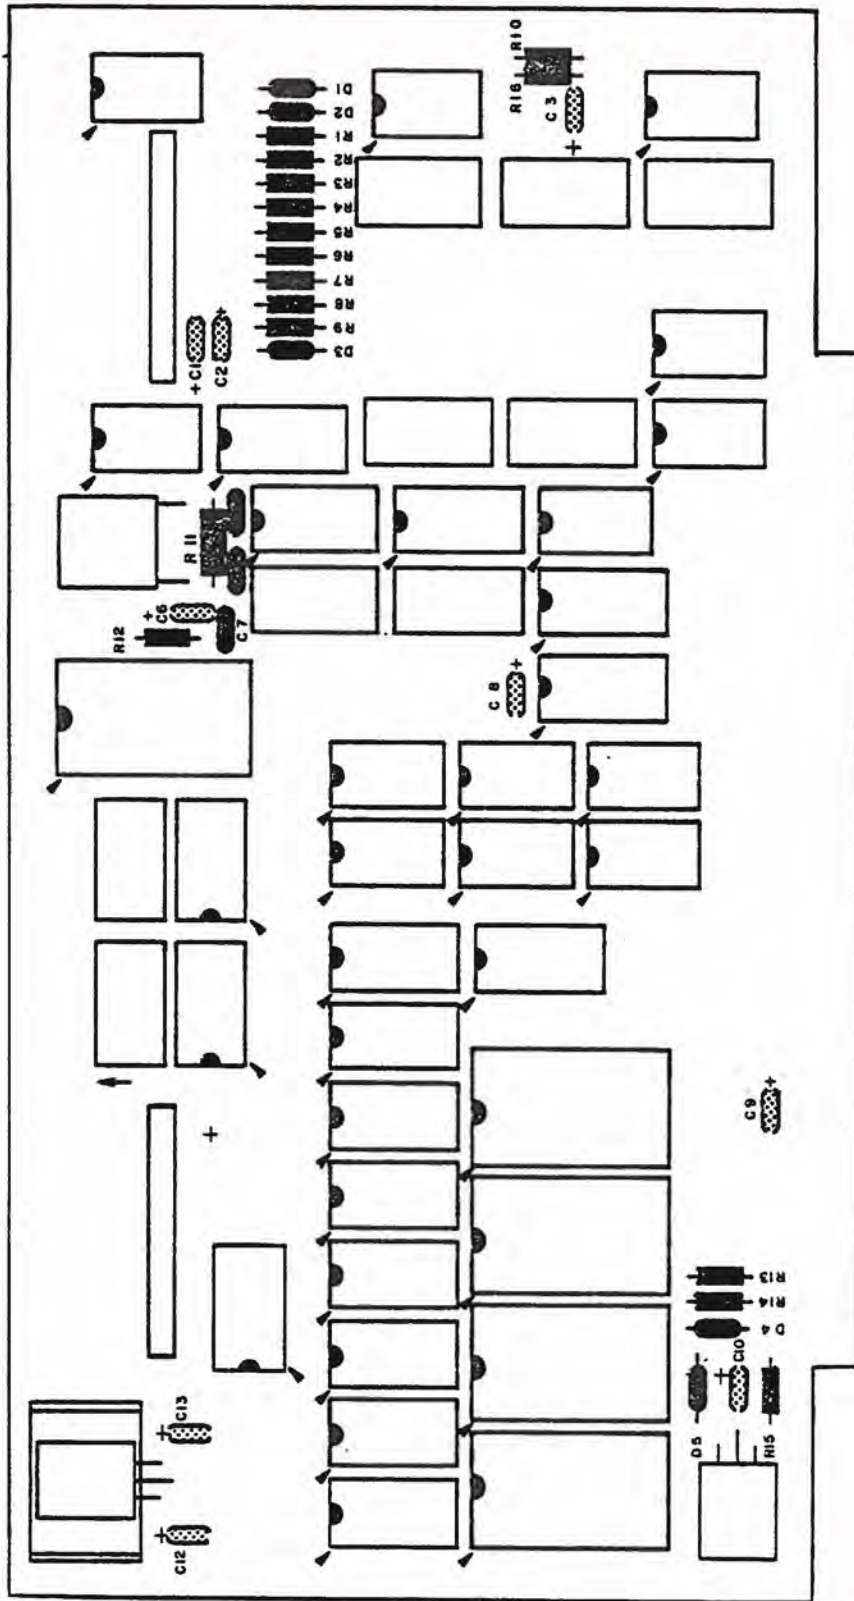

Figure 5-27b Epoxy Dipped Tantalum Capacitor Installation
THERE ARE FIVE (5) 35V CAPACITORS AND FOUR (4) 16V CAPACITORS. BE SURE TO INSERT THEM IN THE PROPER LOCATION AS DEFINED BY THE TABLE, AND FIGURE 5-27b.
Epoxy Dipped Tantalum Capacitors (Figure 5-27b)